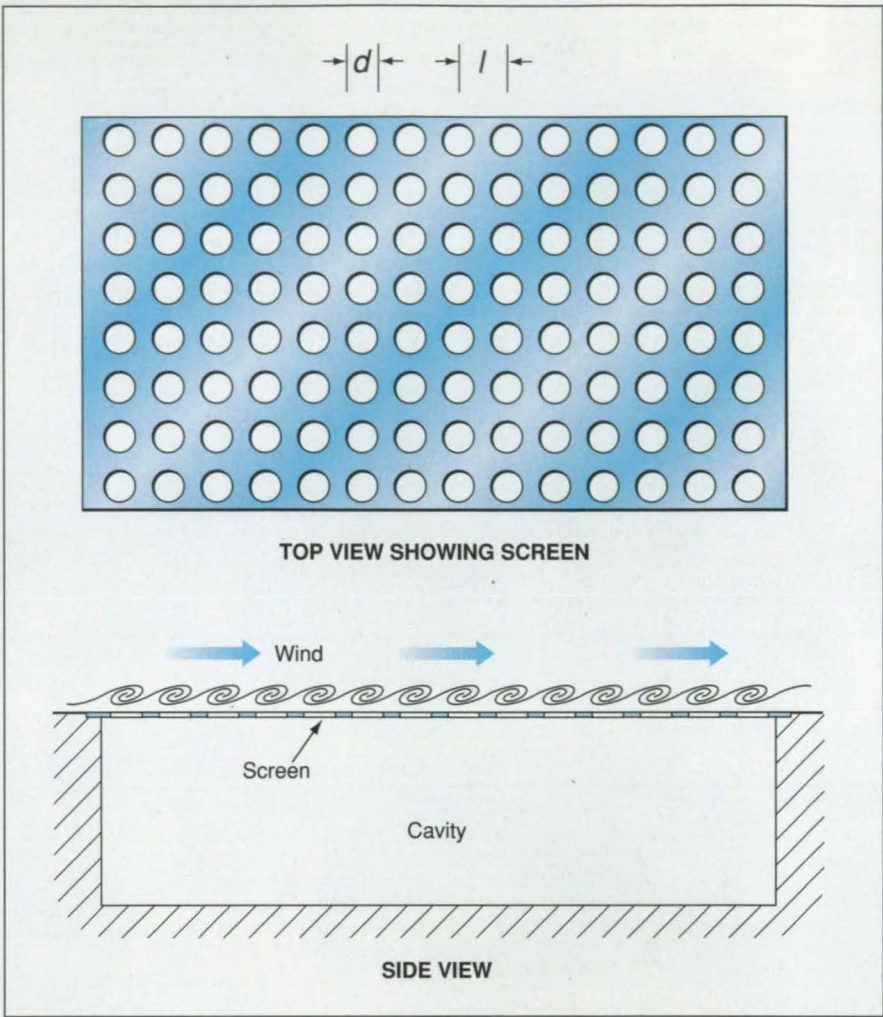

Figure 1. The Perforated Metal Sheet Sheds Vortices as air flows past the cavity, exciting acoustic resonances in the cavity.
coupling between aerodynamic excitation on the screen and acoustic pressure fluctuations in the cavity. More specifically, aeroacoustic resonances occur because of coupling between (1) oscillations of flow into and out of the cavity, associated with shedding of vortices from the holes (see Figure 1); and (2) pressure fluctuations associated with
A representative optoelectronic shearographic instrument (see Figure 1) includes a laser and optics that provide an expanded beam of coherent light to illuminate the test object. The instrument also includes a video camera equipped with an image-shearing lens, which is a lens covered partly with a wedge-shaped prism (or with a birefringent plate). The image-shearing lens produces two closely related effects; each point on the test object is imaged at two points on the focal plane of the camera, and each point on the focal plane of the camera receives light from two points on the test object. The distance ( $\delta x$ ) between the points on the test object is called the "shear distance" and is easily measurable on the test object.
Figure 1. A Shearographic Instrument exploits interference between rays of coherent light arriving at one point on the camera focal plane from two different positions on the test object.